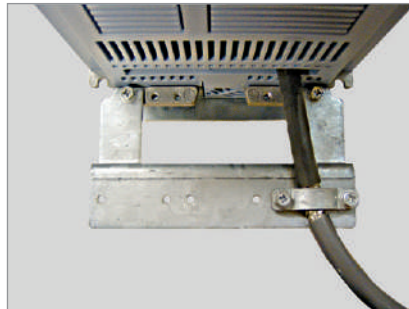

Figure 3.15 - Detail of the motor cable shield connection with the accessory PCSx-01 installed
- (1) SCu = copper or aluminum external shielding.
- (2) AFe = steel or galvanized iron.
- (3) PE = ground conductor.
- (4) Cable shielding shall be grounded at both ends (inverter and motor). Use 360° connections for a low impedance to high-frequencies. Refer to Figure 3.15 on page 3-26.
- (5) For using the shield as a protective ground, it shall have at least 50 % of the power cables conductivity. Otherwise, add an external ground conductor and use the shield as an EMC protection.
- (6) Shielding conductivity at high-frequencies shall be at least 10 % of the power cables conductivity.
There is an option accessory for frame sizes A, B, and C with degree of protection IP2X named "Kit for power cables shielding – PCSx-01" (refer to Section 7.2 ACCESSORIES on page 7-3) that can be adapted in the bottom of the enclosure of these frames. See an example of the cable connection with the accessory PCSx-01 in Figure 3.15 on page 3-26. The kit for power cables shielding is provided for the inverters with internal RFI filters (CFW11XXXXXOFA).
When the "Conduit Kit" (refer to Section 7.2 ACCESSORIES on page 7-3) is used for frame sizes A, B, and C, motor cable shield shall be grounded similarly as in Figure 3.15 on page 3-26.